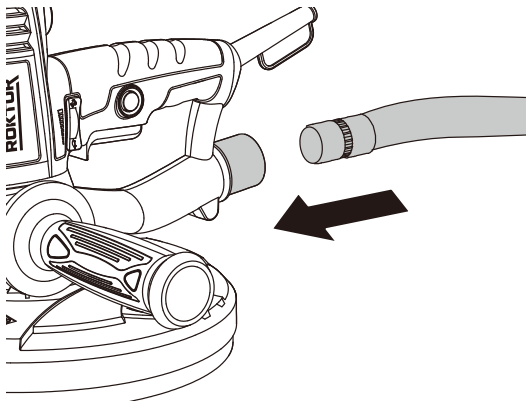

Figure 3
3. ATTACHING THE DUST BAG (SEE FIG. 3)